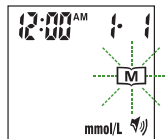

Figure 15
See Figure 14. Press and hold the "M" button for (4) seconds until the unit of measurement you are choosing appears on the display. Press the "SET" button and the memory segment will start flashing. See Figure 15. To skip this step, press the "SET" button.